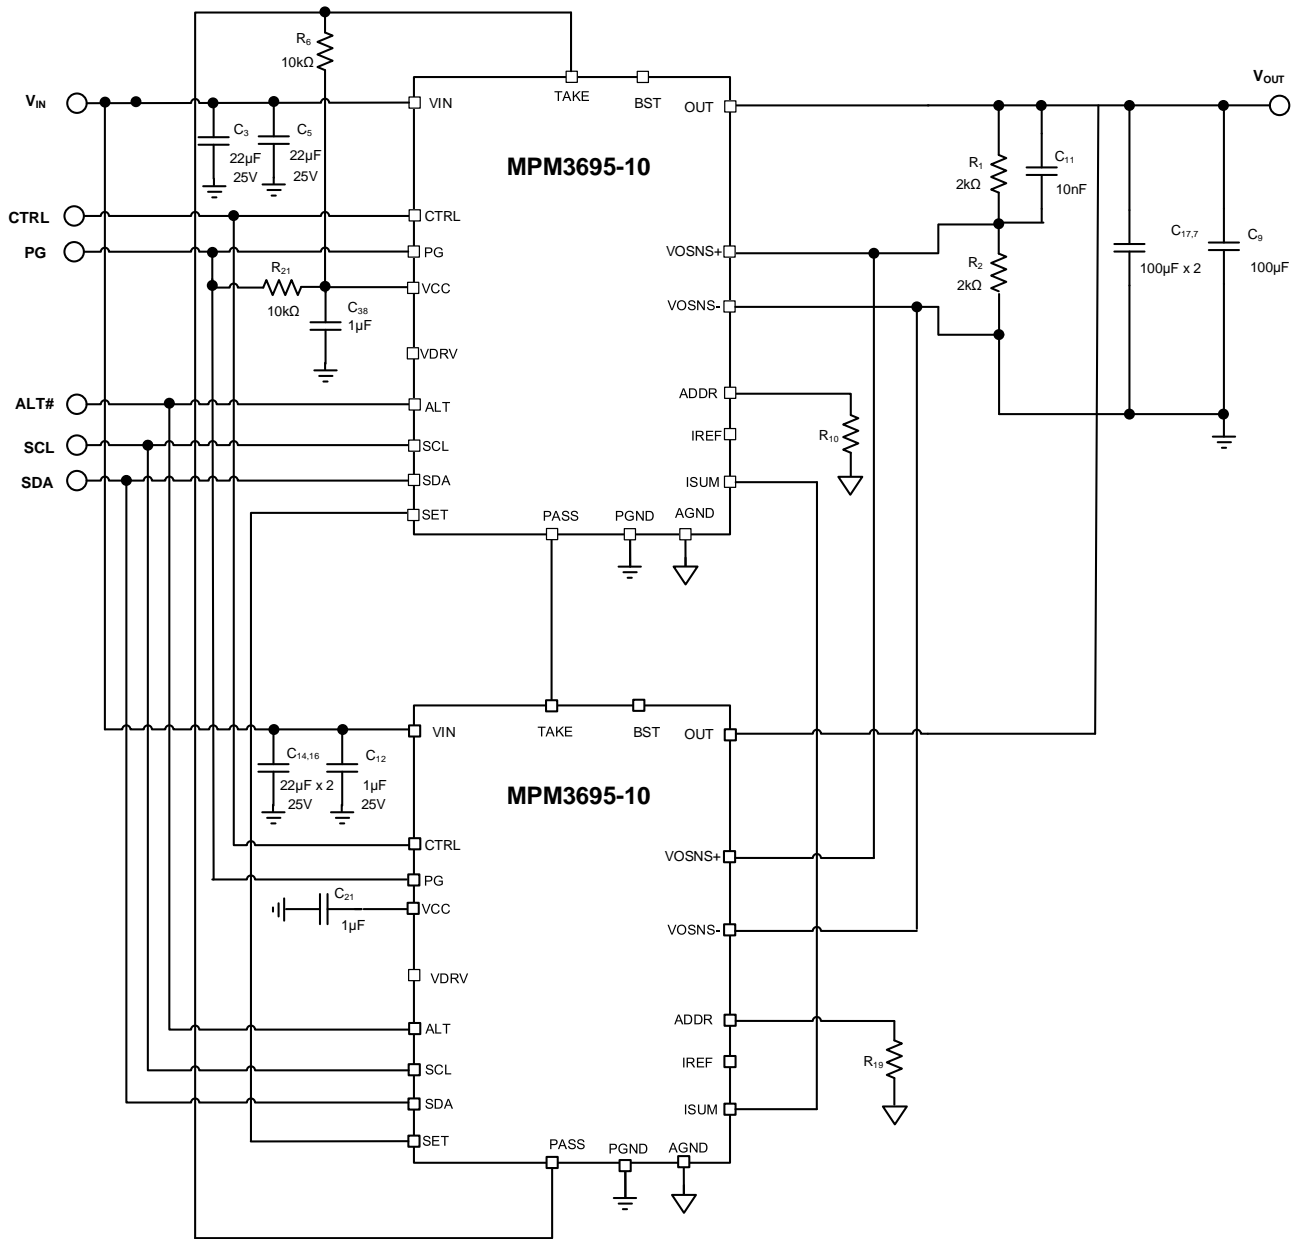

Figure 10: Typical Application Circuit – Dual-Phase, $V_{IN} = 4V$ to $16V$, $V_{OUT} = 1.2V$ at 20A Output
The start (S) and stop (P) commands are signaled by the master device, and signify the beginning and the end of the PMBus transfer. A start command is when the SDA signal transfers from high to low while SCL is high. A stop command is when the SDA signal transfers from low to high while SCL is high (see Figure 10).